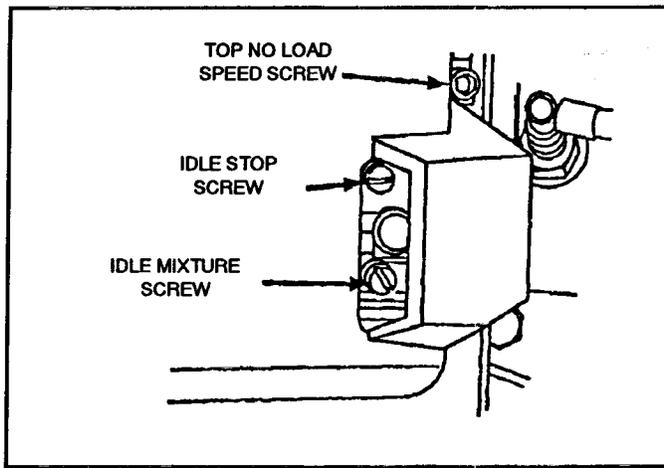

Figure 7
7. Adjust the idle speed stop screw to 1700, +/- 100. See Figure 7.